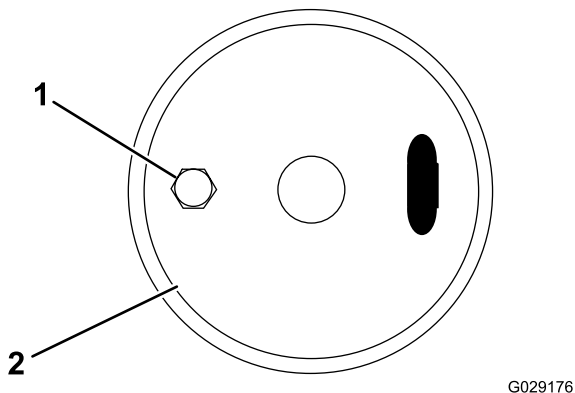

Figure 35
3. Turn the brake adjuster (Figure 35) until the wheel is no longer able to rotate.